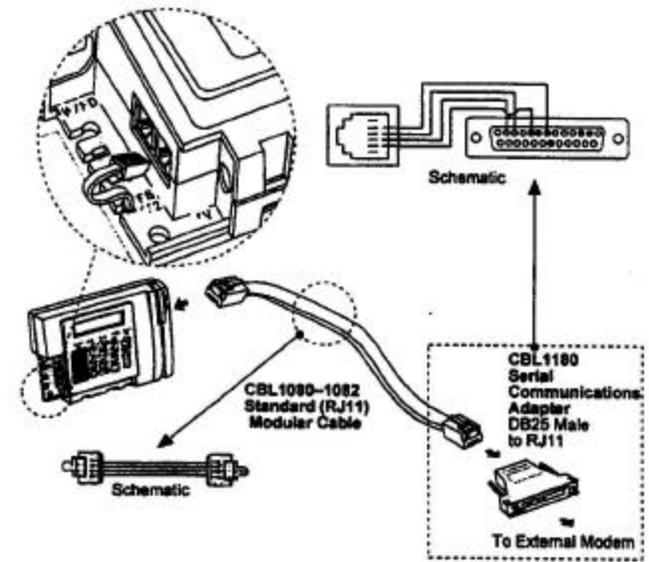

Figure 6: External Modem Communication
1. Install the terminal per the diagram shown in Figure 6.